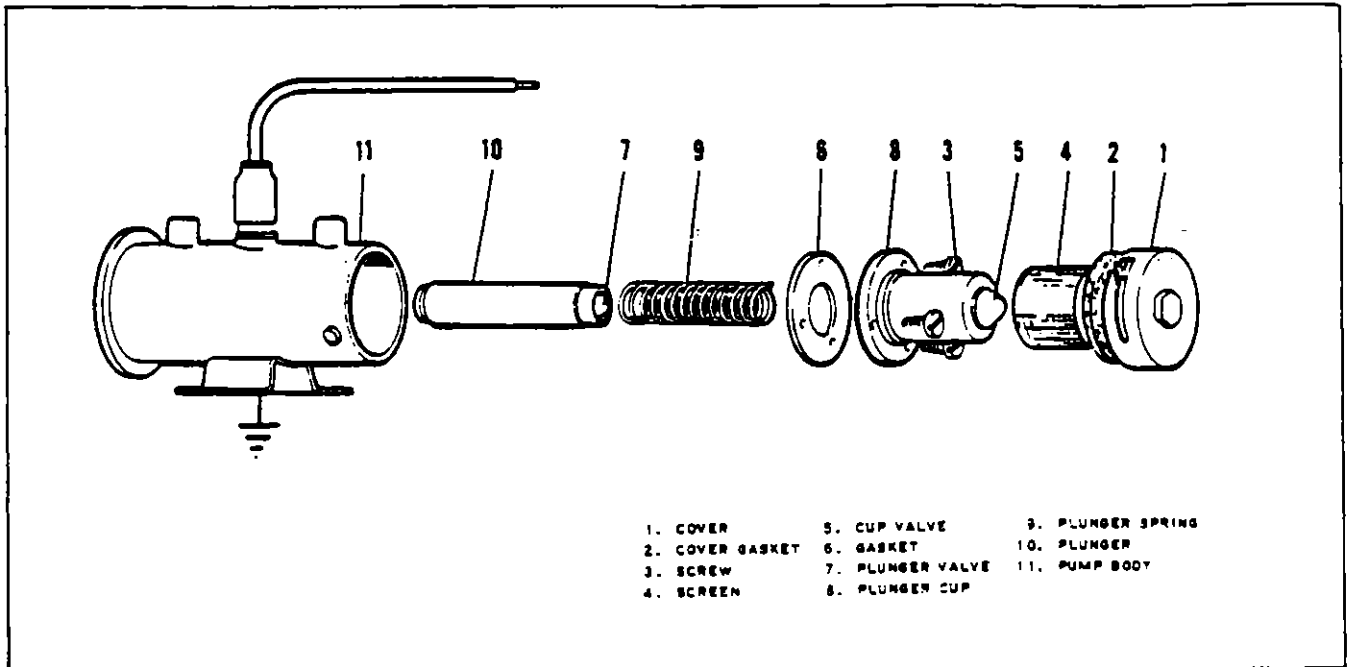
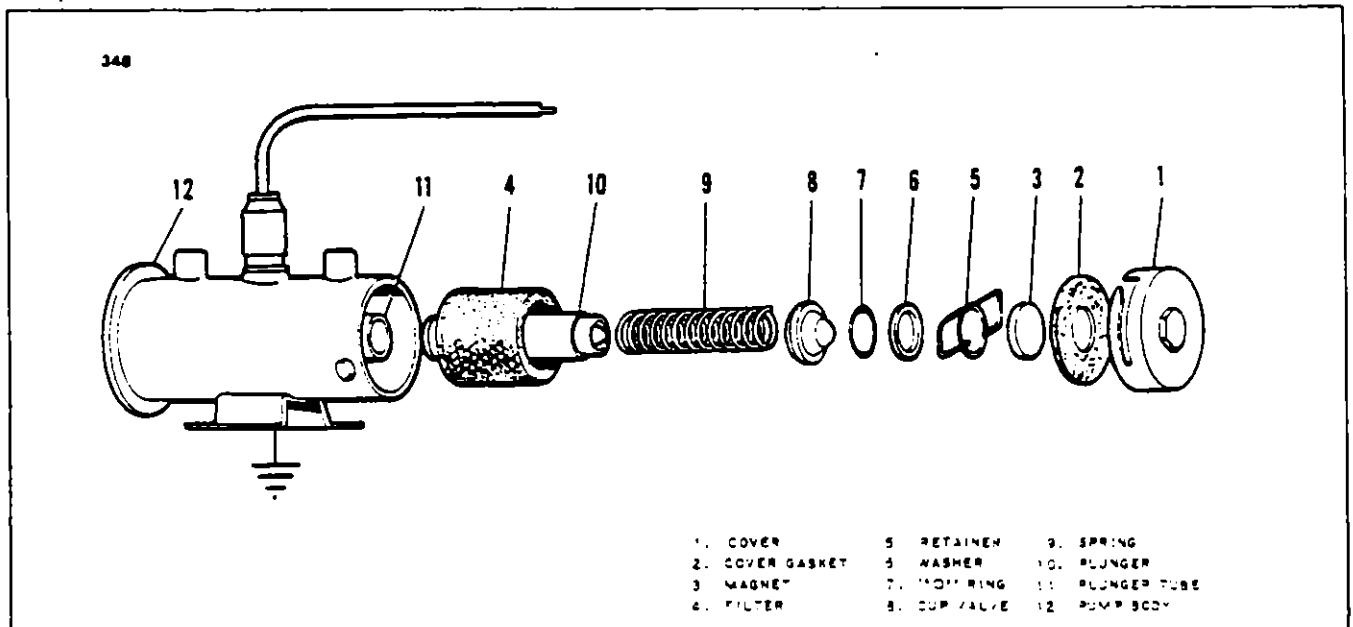

FIGURE 8-15. BENDIX PLUNGER FUEL PUMP (EARLY)
FIGURE 8-16. BENDIX PLUNGER FUEL PUMP (LATE)
Field service is limited to the extent of cleaning the bottom cover, filter screen, plunger tube and plunger assembly. On the PA-24-180 and PA-24-250 aircraft, pump internal parts differ with the early style (refer to figure 8-15) and the late style (refer to figure 8-16). On the PA-24-260 only the late style pump is used.
1. Early Plunger Pump. (Refer to Figure 8-15.)
- a. To service the early pump, detach from the aircraft and remove the bottom cover (1) and filter screen (4) as explained in paragraph 8-22.
- b. Disassemble the plunger spring cup (8) by removing the three screws (3) securing the cup. Gently touch the plastic cup valve (5) with your finger. If it is free, do not remove the valve spring. Do not apply air pressure to this assembly. Use long nose pliers to replace valve assembly if it falls out of the cup. It will click when the assembly is properly seated.
- c. Pull the plunger spring (9) and plunger assembly (10) from the pump with your fingers. Do not drop or mutilate the plunger. The buffer spring and valve (7) must not be removed from the plunger. Wash the plunger assembly in gasoline or a reliable solvent. If it does not wash clean or if there are any rough spots, gently dress with crocus cloth.
2. Late Plunger Pump. (Refer to Figure 8-16.)
- a. Detach pump from the aircraft and remove the bottom cover (1), gasket (2) and filter (4).
- b. Remove the retainer spring (5) from the plunger tube (11) using thin nose pliers to spread and remove ends of retainer from tube. Then remove washer (6), "O" ring seal (7), cup valve (8), plunger spring (9) and plunger (10) from tube (11).
- d. To reassemble the pump, insert the plunger assembly (10) in the tube with the buffer spring end first. Check fit by slowly raising and lowering the plunger in the tube. It should move freely without any tendency to stick. If a click cannot be heard, the interrupter assembly is not functioning properly in which case the pump should be replaced.
- e. To complete the assembly, install the plunger spring (9), cup valve (8), "O" ring seal (7) and washer (6). Compress spring (9) and assemble retainer (5) with ends of retainer in side holes of tube (11). Reinstall filter, cover gasket, magnet and cover. Safety and install on aircraft. Check for fuel leakage.